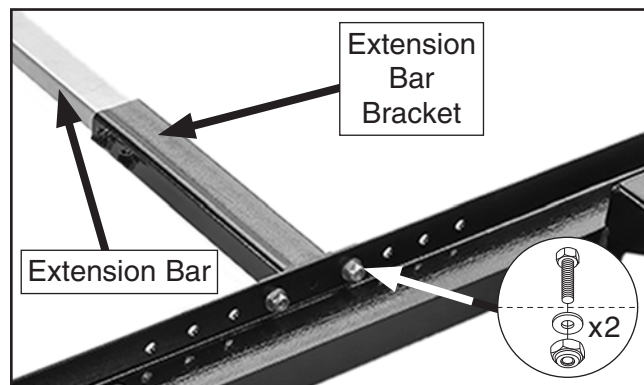

Figure 10. Adapter bracket attached.
10. Slide extension bar bracket over extension bar, then attach bracket to center of leg support channel bracket with (2) M8-1.25 x 16 hex bolts, (2) 8mm flat washers, and (2) M8-1.25 lock nuts (see **Figure 10**).